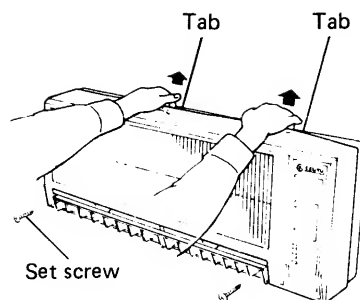

Fig. D-1
- 1) Remove the two (2)\* set screws holding the casing to the indoor unit with a Phillips screwdriver. \*SAP 121KC has three (3) screws.
- 2) Pull up the casing by hand, press down on tabs on top, then withdraw the casing by pulling it back straight. Fig. D-1.